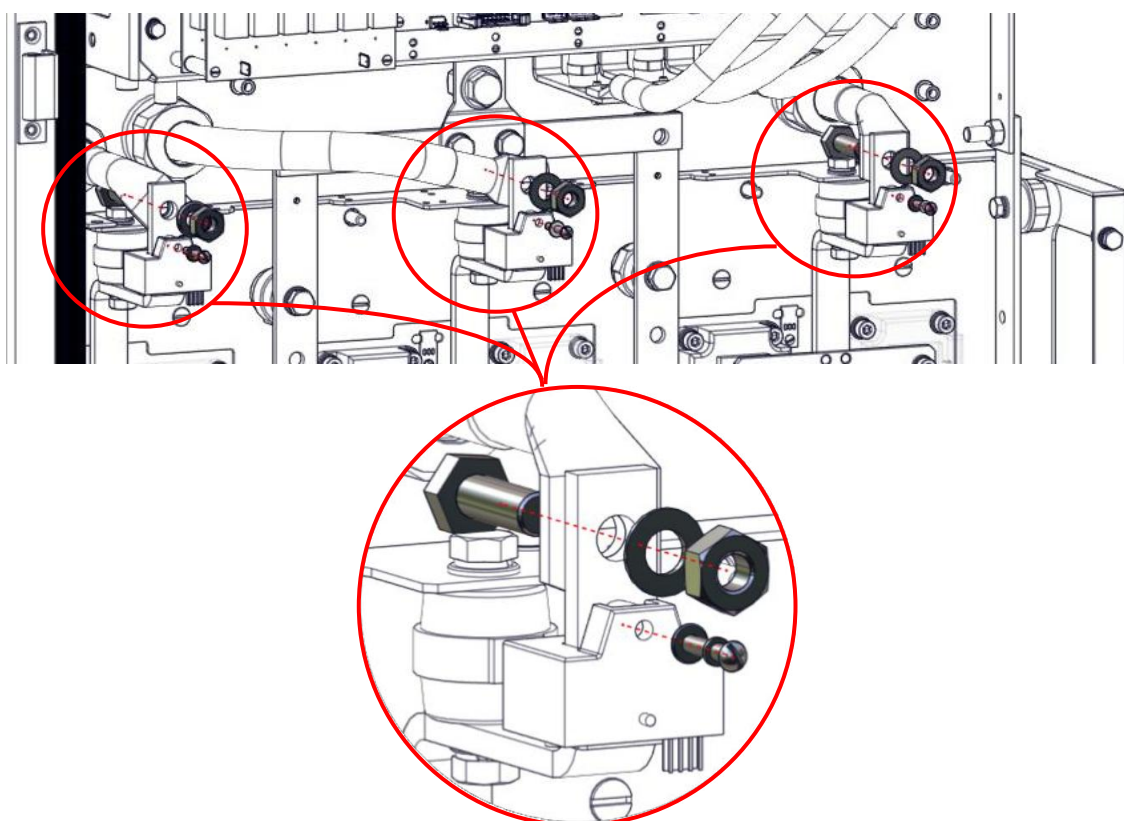

Figure 32 – Unfixing current sensors
1. Unscrew three bolts fixing cables on the buses, using wrenches size 17 mm (11/16"), as shown on the figure 32.
2. Unscrew three screws fixing current sensors, using flat screwdriver size 1.2 mm (3/64"), as shown on the figure 32